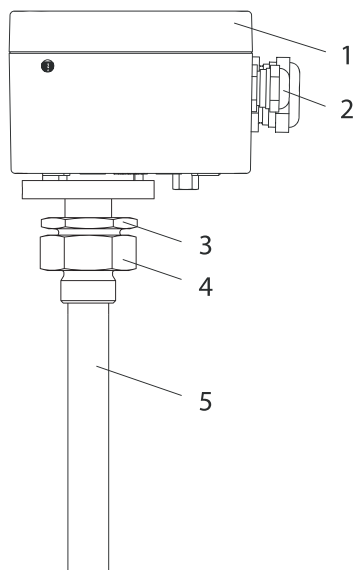

Fig. 1
Fill the thermometer pocket with oil until it is 2/3 full. To assemble, screw the bottom nut of the double joint (figure 1, item 4) into the thermometer pocket. Insert and straighten the immersion tube (figure 1, item 5) of the ZT-F2.1 transformer temperature transmitter. Tighten the double joint (figure 1, item 3).
Unscrew the cover of the ZT-F2.1 transformer temperature transmitter (figure 1, item 1). Unscrew the M16x1,5 pressure screw. Push the pressure screw, thrust collar and gasket over the temperature detector (9.5 mm diameter) and the capillary tube. Thread the temperature detector 40 – 50 cm through the small cable gland connection until it reaches the stop (at a depth of approx. 210 mm) in the transformer temperature